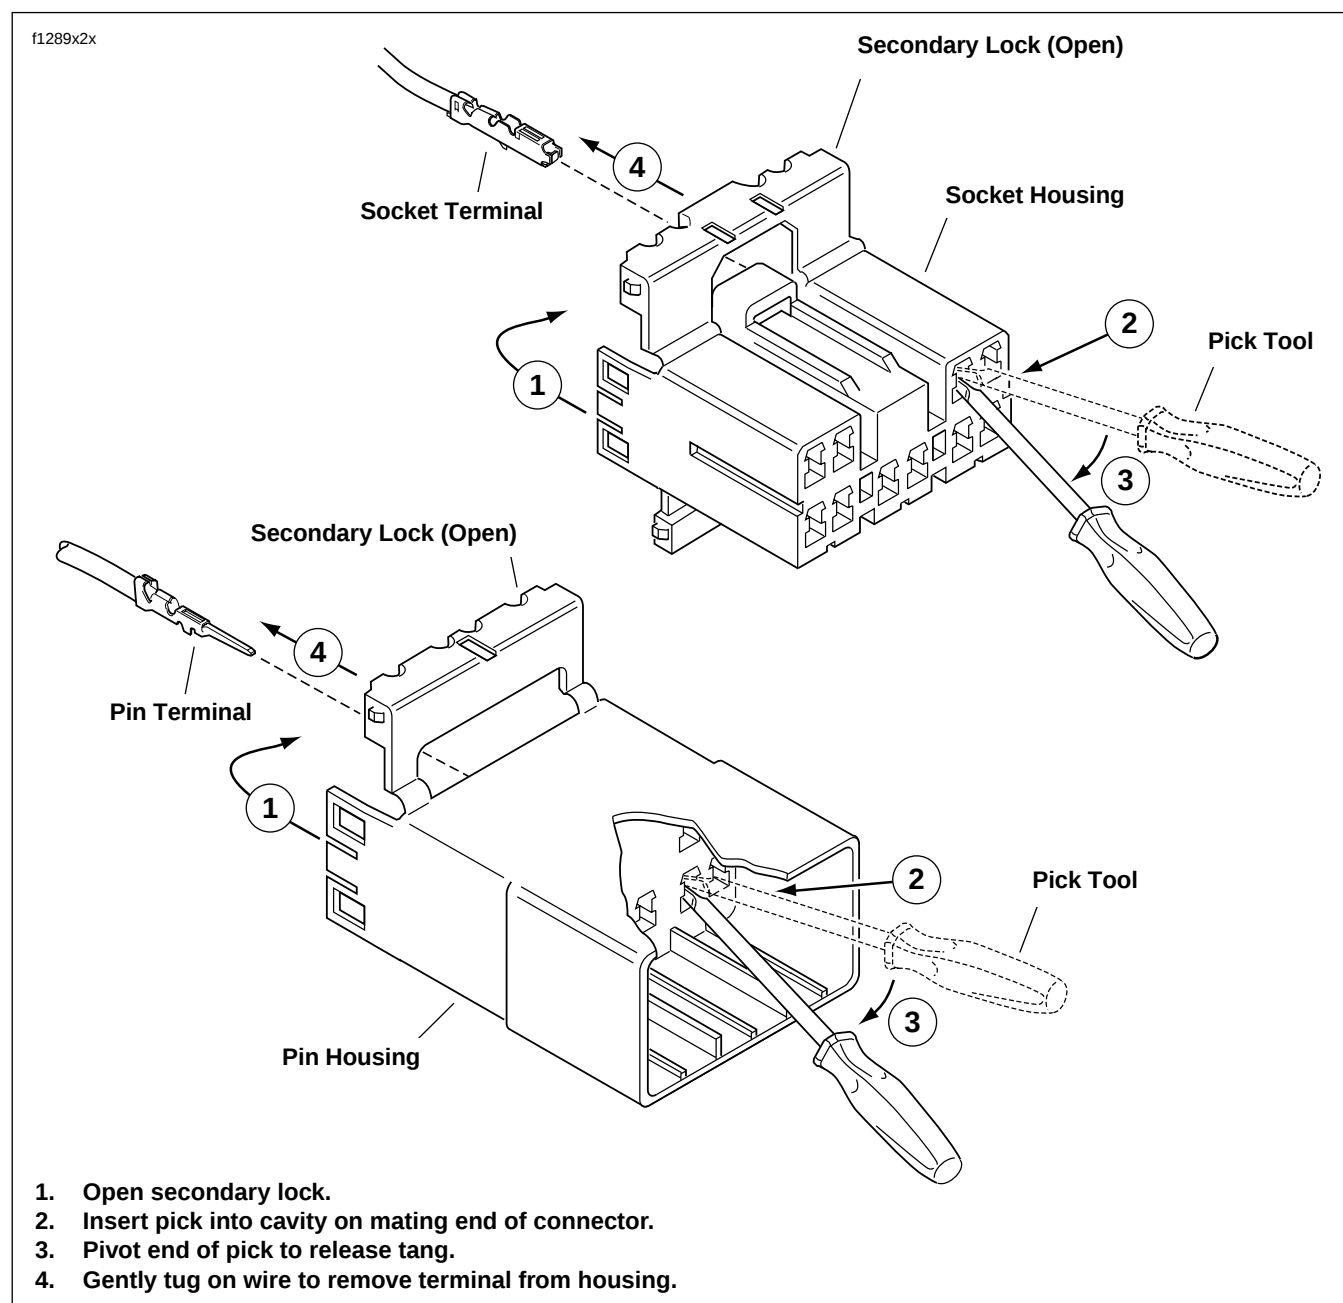

Figure B-5. Release Tang and Back Out Terminals
5. See Figure B-5. With the flat edge against the terminal, insert the pick (Snap-On TT600-3) into the cavity until it stops. Pivot the end of the pick away from the terminal and gently tug on wire to pull terminal from chamber. Do not tug on the wire until the tang is released or the terminal will be difficult to remove. A "click" is heard if the tang is engaged but then inadvertently released. Repeat the step without releasing the tang.
1. See Figure B-5. From the secondary lock side of the connector, insert the terminal into its respective numbered chamber until it snaps in place. For proper fit, the slot in the terminal must face the tang in the chamber.